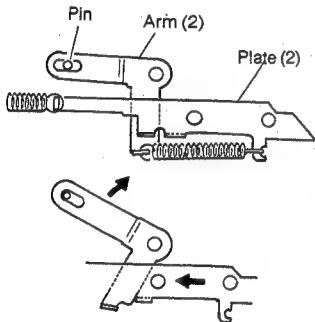

Fig. 13
3. With Plate (2) moving leftward, Arm (2) is pushed in the arrowed direction (Fig. 13) and lifts the pin, causing the cassette to rise.